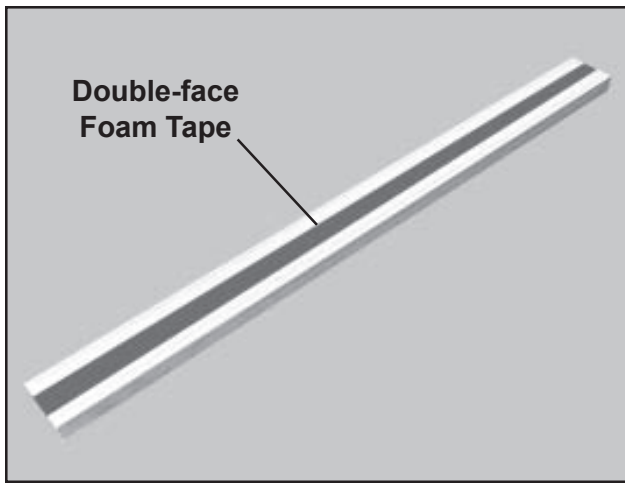

Figure 16. Applying Tape to the Center Support
4. Apply double-face tape to the back of each of the center supports (Figure 16).